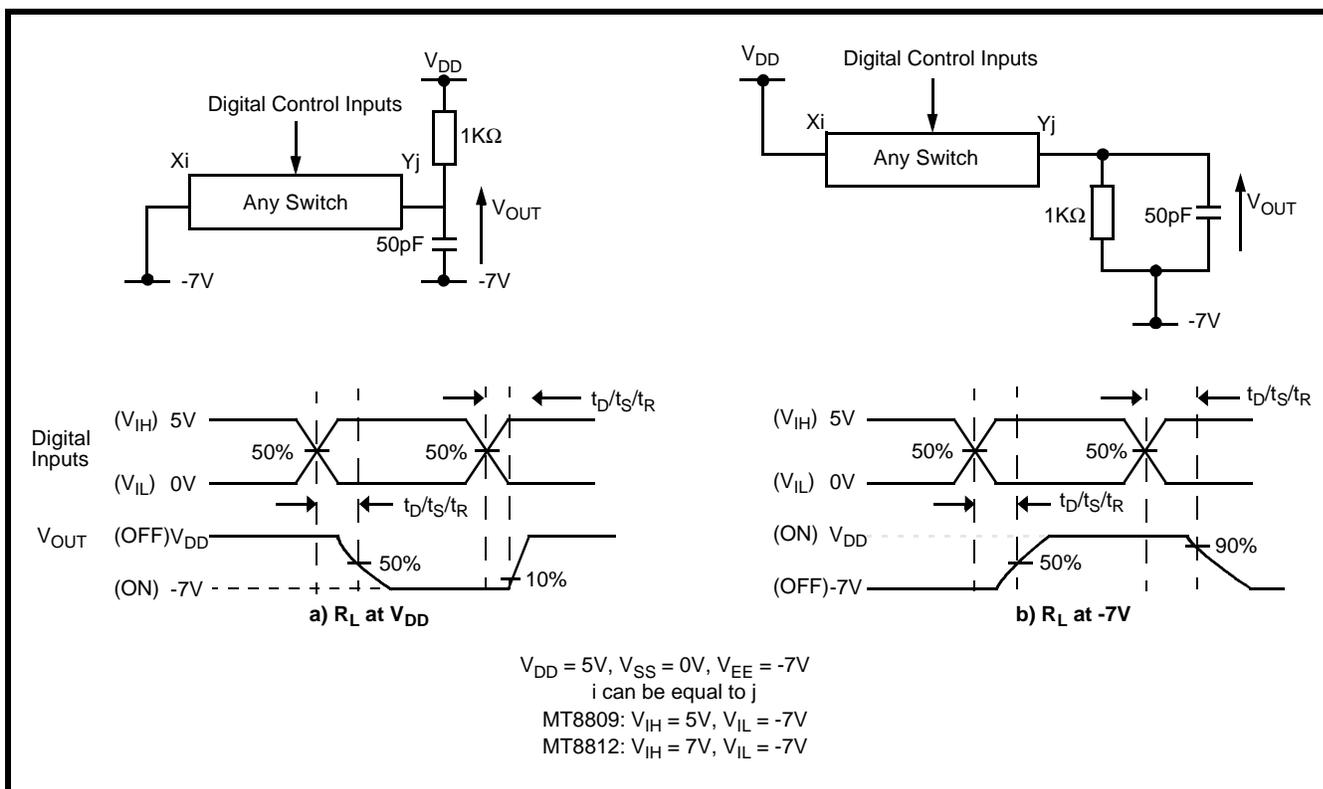

Figure A.7 - Control Memory Timing Measurements †
)①Refer to Appendix, Fig. A.7 for test circuit.
* See Appendix, Fig. A.7 for switching waveform